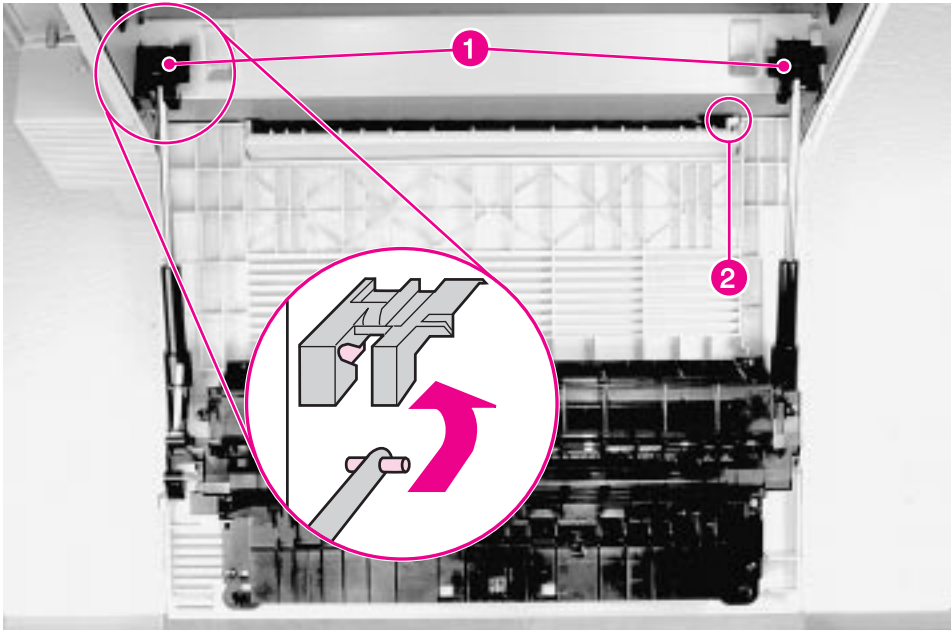

Figure 6-14 Diverter Door Assembly
- 1 Remove the Diverter Assembly access door (see figure 6-14).
- 1 Open the Diverter access door, and release the support struts (figure 6-14, callout 1) by sliding the strut ends forward and downward.
- 2 Rotate the door up to align the flat sides of the right hinge pin with the retaining slot (figure 6-14, callout 2), and lift upwards to release it from the retaining slot.